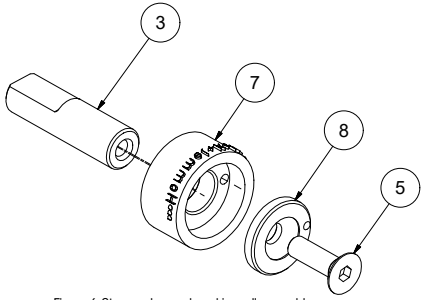
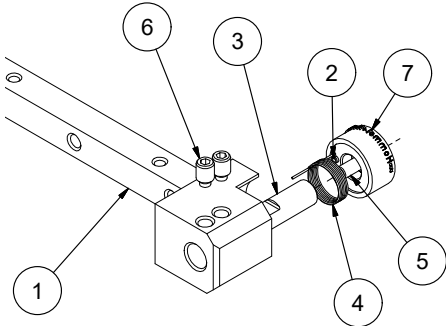
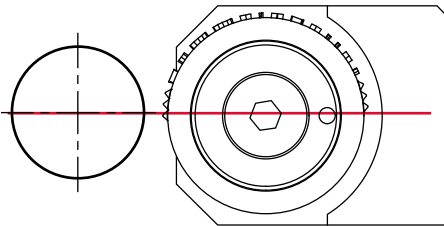
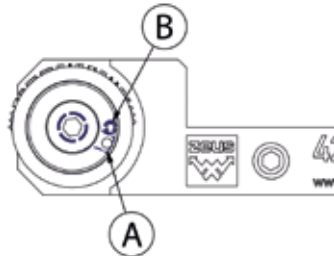

Figure 6: Stop washer and marking roll assembly
Figure 7: Installation of marking roll
Figure 8: Alignment of the marking roll
Figure 9: Marking roll positioning
Slide the marking roll (Fig. 6, pos. 7) with the stepped bore first and the stop washer (Fig. 6, pos. 8) and the bearing bolt (Fig. 6, pos. 3) and fasten with the countersunk screw (Fig. 6, pos. 5). An additional race, behind which the marking roll is mounted, is included with the version up to a shoulder.
Slide the bearing bolt with the mounted marking roll and stop washer into the holder so that the spring arm of the spring (Fig. 7, pos. 2) is accepted by the bore of the marking roll (Fig. 7, pos. 7) (Fig. 6). In the process, turn the bearing bolt (Fig. 7, pos. 3) so that the clamping surface is flush with the threaded holes in the holder (Fig. 7, pos. 1). Then, tighten the two threaded pins (Fig. 7, pos. 6) slightly.
Loosen but do not remove the countersunk screw (Fig. 6, pos. 5). Then, when the workpiece direction of rotation is CW, turn the marking roll (Fig. 6, pos. 7) CCW until the starting point is on the centre height (shank top edge) of the tool holder (cf. Fig. 8). When the workpiece direction is CCW, turn the marking roll CW. Hold the marking roll in this position and push the nose of the stop disc (Fig. 9, ref. A) against the tensioning pin (Fig. 9, ref. B) and re-tighten with the countersunk screw (Fig. 6, pos. 5).
Push the bearing bolt (Fig. 7, pos. 3) into the holder (Fig. 7, pos. 1) until the marking roll (Fig. 7, pos. 7) can still rotate easily. Hold it in this position and firmly tighten the threaded pins (Fig. 7, pos. 6).
First turn the marking roll (Fig. 7, pos. 7) by hand CCW to the mechanical stop. When you let go of the marking roll, it must return to the starting position of the marking. Now turn the marking roll slightly. During this movement the marking roll must again spring back to the starting position on its own.
For removal of the marking roll (Fig. 7, pos. 7), follow the instructions starting with no. 7 in reverse sequence. For a left-hand tool version, adapt the procedure accordingly. Pay special attention to the rotary direction of the roll!